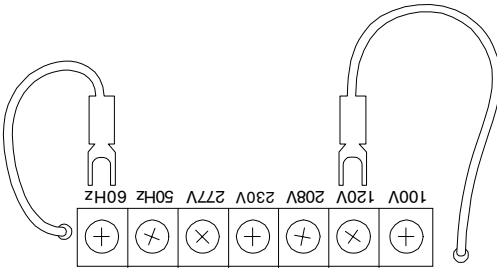

Figure 5. Set jumpers to correct frequency and/or voltage
6. Remove the jumper end and re-insert it behind the screw of the desired voltage or frequency contact (see Figure 5). After you move the jumper, tighten its corresponding screw to secure the jumper to the pin.